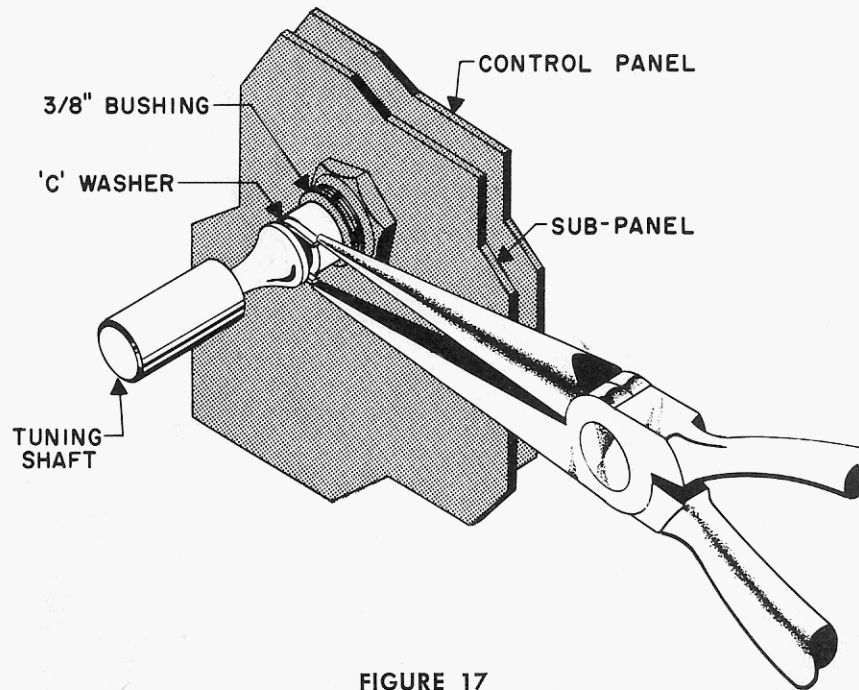

FIGURE 17
- Tuning shaft and two C washers. See Figure 17. Place a C washer in the groove near the center of the shaft. Lock it in place by pinching the ends of the washer with your longnose pliers. From the back of the control panel, insert the shaft through the $\frac{3}{8}$ " bushing marked BANDSPREAD. Place the second C washer in the remaining groove and lock it in place with your longnose pliers.